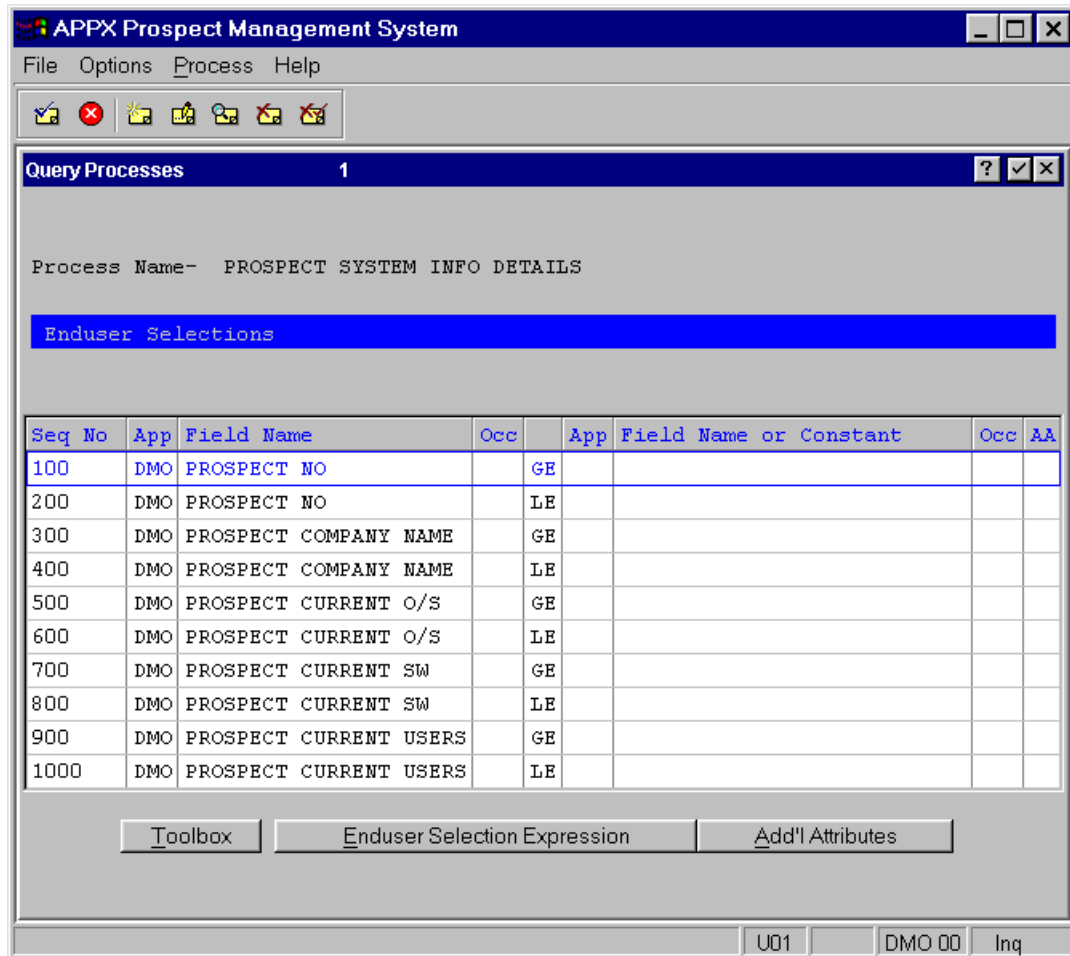

Figure E4.7 – Query Process Enduser Selections
- You notice that the letters, "ES", are displayed under the **Options** heading which indicates that the Query Process includes **Enduser Selections**. Enduser Selection records have been created for the fields for which you specified a **Gen Seq** value and checked the **Query?** field when generating the job. Click on the **Enduser Selections** button to view the **Enduser Selections**. The five fields that you selected during the setup process are displayed as selections as shown in *Figure E4.7* below.